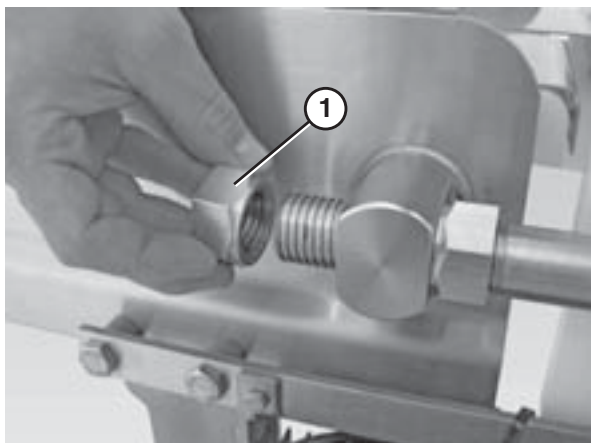

Figure 73
1. Remove the back nuts (Figure 73, item 1) on both discharge nose bar shafts.